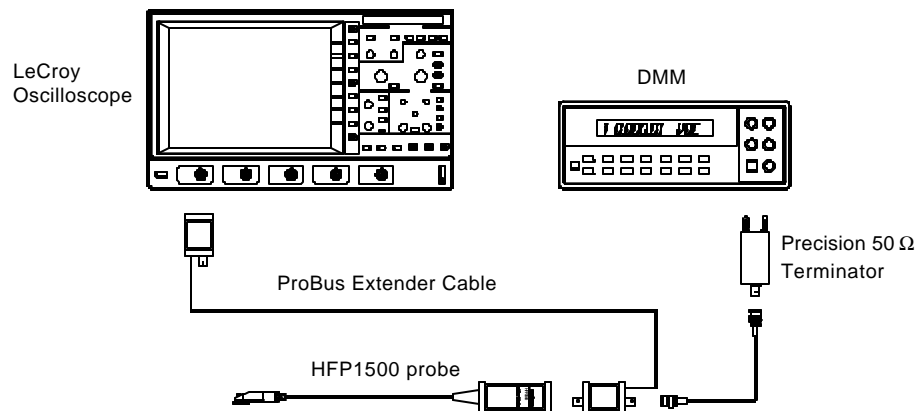

Figure 8-1. Output Zero Voltage Adjustment Setup
2. Connect the banana plugs of the precision 50  $\Omega$  terminator to the input of the DMM. Make sure the plug corresponding to the BNC shield (marked 'Ground') is connected to the **LO** or **COMMON** input of the DMM. Refer to figure 8-1 for setup information.